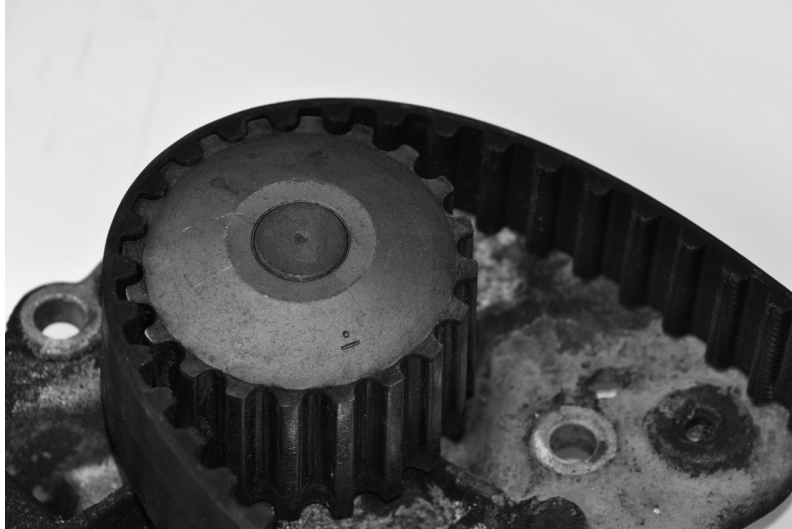

Fig. 8
- 4 (a) Fig. 8 shows a toothed belt driving a pulley.